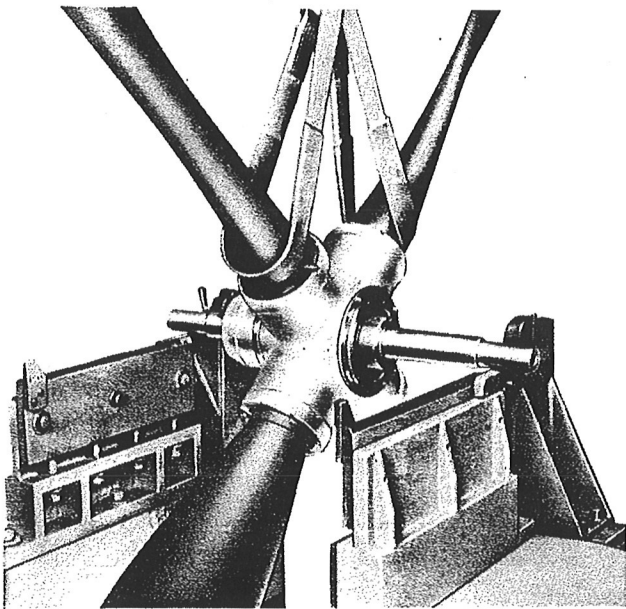

Figure 160—Lowering Propeller on Balancing Ways
(1) Remove the regulator as directed in section VI, paragraph 3. a.
(2) Disassemble and thoroughly clean the hub as directed in section VI, paragraph 3. c.
(3) Replace the torque units.
(4) Replace the blades.
(5) Install the balancing adapter.
(6) Install the master gear and master gear retaining plate.
(7) Check the blades for their minimum angle. Allowable variation between any two blades with master gear installed is .2 degree.
(8) Set the blades at approximately the intermediate angle between minimum and maximum blade angles.
(9) Insert the arbor and carefully lower the propeller on the brass stops of the balancing ways. (See figure 160.)